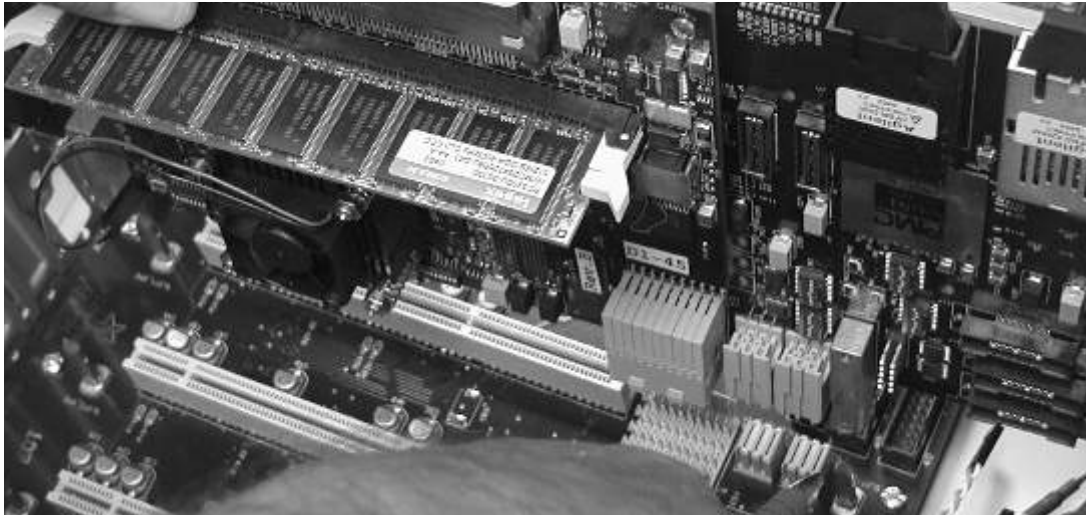

**Figure 2-5. Removing PCI Slot Bracket Screws**
6. Remove PCI bracket screws. See Figure 2-5.